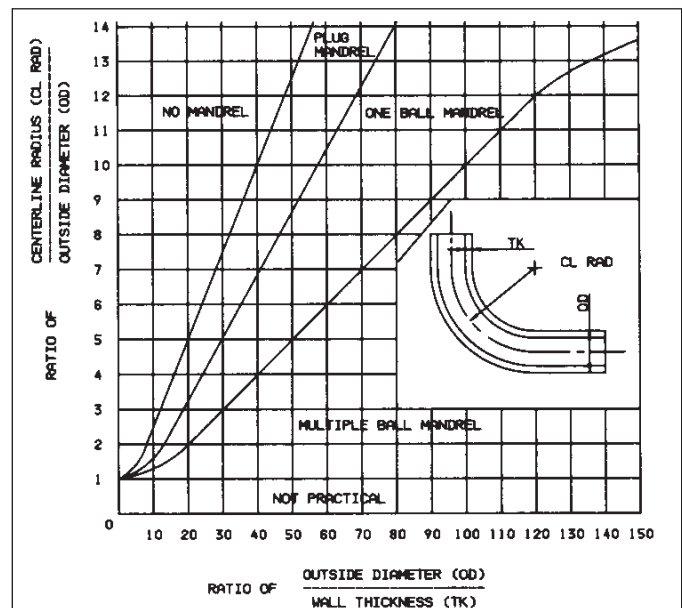

Fig. Q31 – Mandrel Graph Chart
* See Fig. Q31 for mandrel usage.